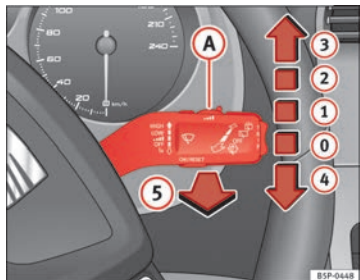

Fig. 85 Windscreen wiper and windscreen wash lever
The windscreen wiper lever ⇒ fig. 85 has the following positions:
- The next speed down will automatically be selected if wiper speed ② ⇒ fig. 85 or ③ is selected when the vehicle stops. The set speed will be resumed when the vehicle starts again